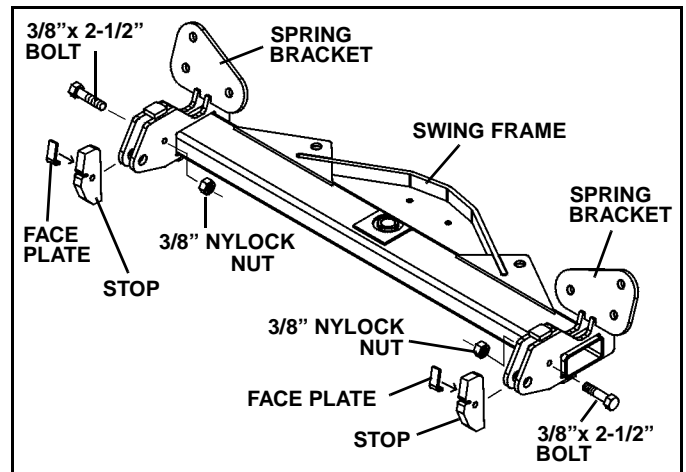

Figure 1-3
2. Slide the metal face plates into the slot in the blade stops from the side. Place the stops between the lugs on the swing frame. Secure with 3/8" x 2-1/2" bolts and locking nuts. (See Figure 1-3). Bolts and nuts are in the blade parts bag.